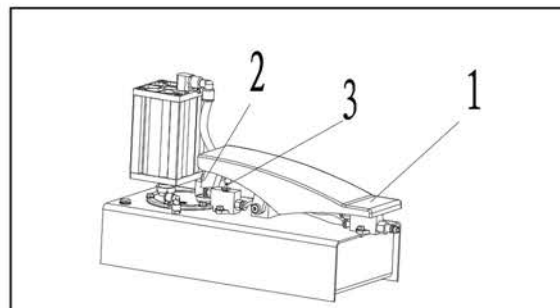

FIG 6
3.3 RQML4 (refer to Fig. 6 for air-hydraulic pump) Variable two-position pedal: